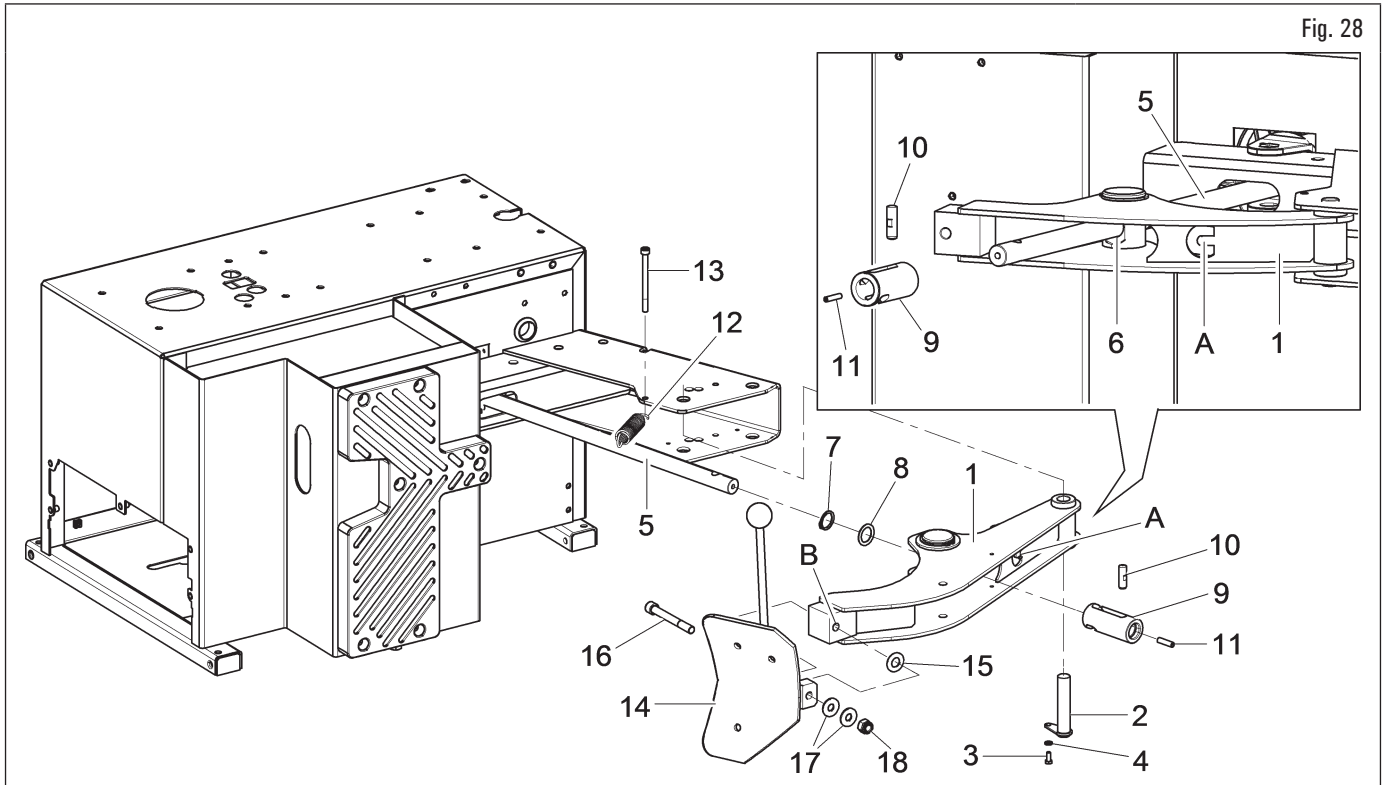

Fig. 28
1. Insert bead breaker arm end (Fig. 28 ref. 1) inside frame protruding part; install pin (Fig. 28 ref. 2). Lock pin using bolt (Fig. 28 ref. 3) and washer (Fig. 28 ref. 4);
2. insert rod (Fig. 28 ref. 5) inside special hole of the articulated joint (Fig. 28 ref. 6) on the bead breaker arm (Fig. 28 ref. 1) interposing the seeger (Fig. 28 ref. 7) and the washer (Fig. 28 ref. 8). Put the cam with repositioning (Fig. 28 ref. 9) in the rod sticking out from the arm; centre the pin (Fig. 28 ref. 10) into the hole on the rod and secure with the grub screw (Fig. 28 ref. 11);
3. fit the spring (Fig. 28 ref. 12), hooking the bolt (Fig. 28 ref. 13) to the end (Fig. 28 ref. A) (onto arm);
4. position the shovel (Fig. 28 ref. 14) close to bead breaker arm end; insert inside point (Fig. 28 ref. B) the Belleville washer (Fig. 28 ref. 15). Secure the shovel (Fig. 28 ref. 14) to bead breaker arm using bolt (Fig. 28 ref. 16), washers (Fig. 28 ref. 17) and nut (Fig. 28 ref. 18).